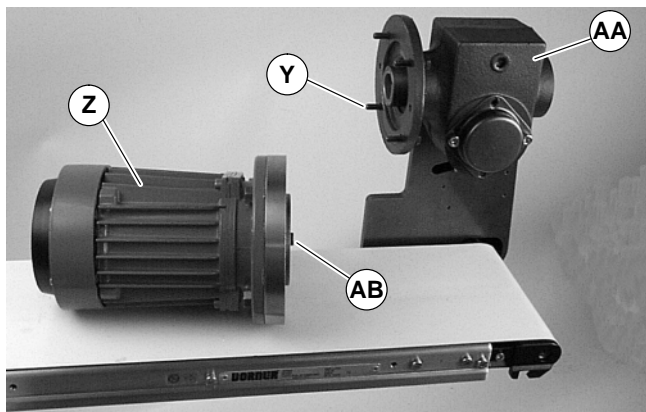

Figure 21
3. Remove four (4) screws (Y of Figure 21). Detach motor (Z) with adapter flange from gear reducer (AA). Retain motor output shaft key (AB).